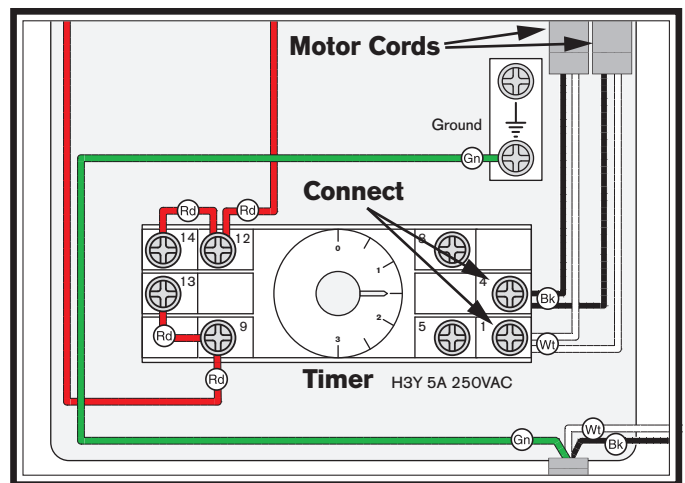

**Figure 76. Filter brush motor cord routed into switch box.**
- Push filter brush motor power cord through cord routing cover and through strain relief at top of switch box (see **Figure 76**).